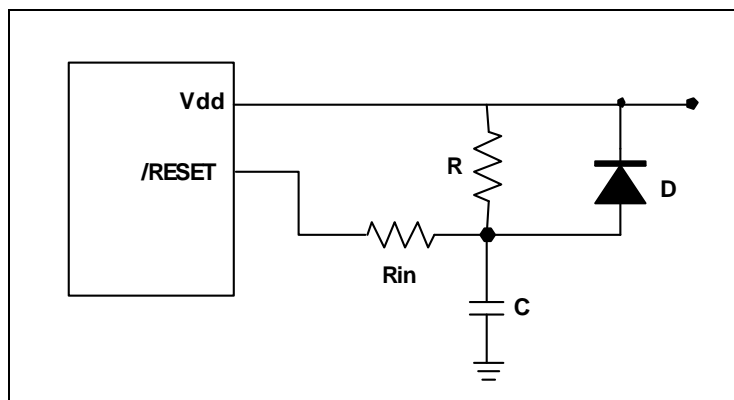

Figure 6-45 External Power-up Reset Circuit
The circuit shown in Figure 6-45 implements an external RC to produce the reset pulse. The pulse width (time constant) should be kept long enough for Vdd to reached minimum operating voltage. This circuit is used when the power supply has slow rise time. Because the current leakage from the /RESET pin is about  $\pm 5 \mu\text{A}$ , it is recommended that R should not be greater than 40K. In this way, the /RESET pin voltage is held below 0.2V. The diode (D) acts as a short circuit at the moment of power down. The capacitor C will discharge rapidly and fully. Rin, the current-limited resistor, will prevent high current or ESD (electrostatic discharge) from flowing to pin /RESET.